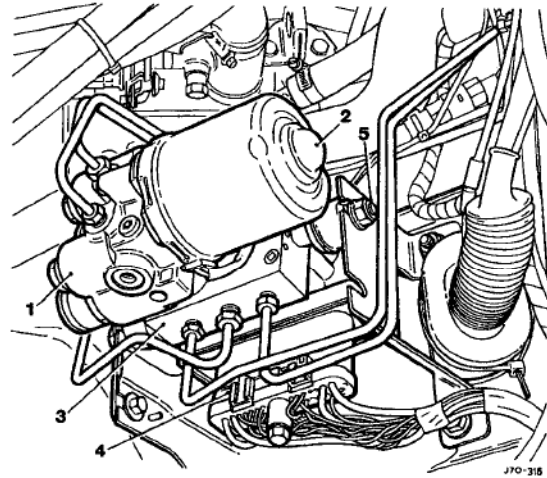

Fig. 1
The control module (CM) (4 Fig. 1), located beneath the modulator valve block (3 Fig. 1), is the system controller and processes all the information supplied from the external sensors and probes. Refer to the Control Module Connection Diagram. The signals from the four wheel speed sensors are independently processed by the CM, calculating numerical values which correspond directly to the wheel speed. These values are converted into control signals for pressure modulation during ABS control.